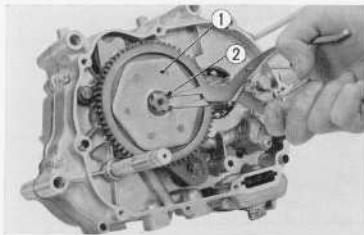

Fig. 3.77 Removing the primary driven gear
2. Remove the primary driven gear ① by removing the 20 mm circlip. (Fig. 3.77)